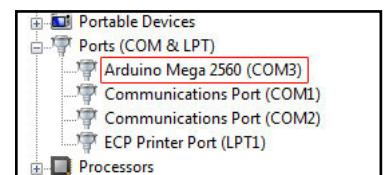

Fig1
6. Determine which Serial port your arduino is connected to by using the Windows Device Manager. To do this, click Windows > Run and type in %device manager%. Under "Ports (Com and LPT)" you should see the Arduino board and a COM port (see Fig1).